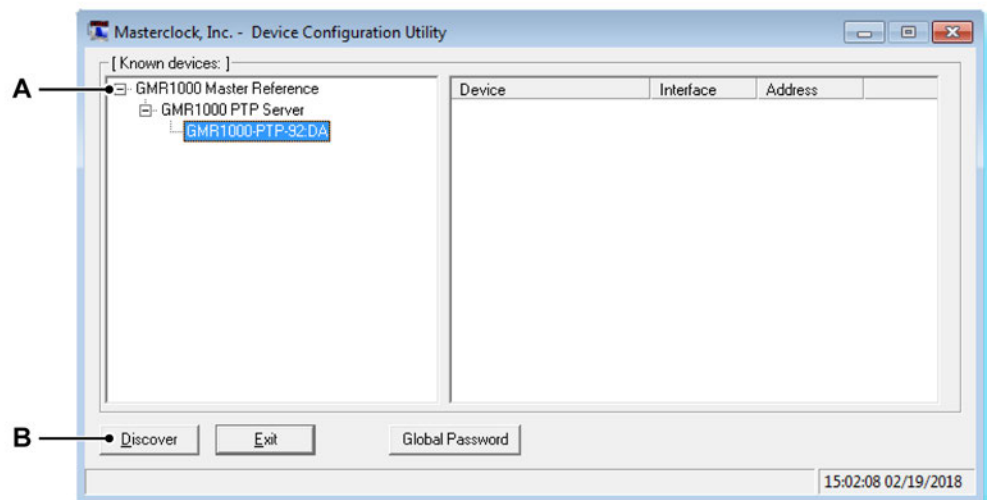

Figure 14.69: Device Configuration Utility tool - Detected devices
- 1 Start the WinDiscovery tool from Masterclock®, this will show the devices on the network (see Figure 14.69).